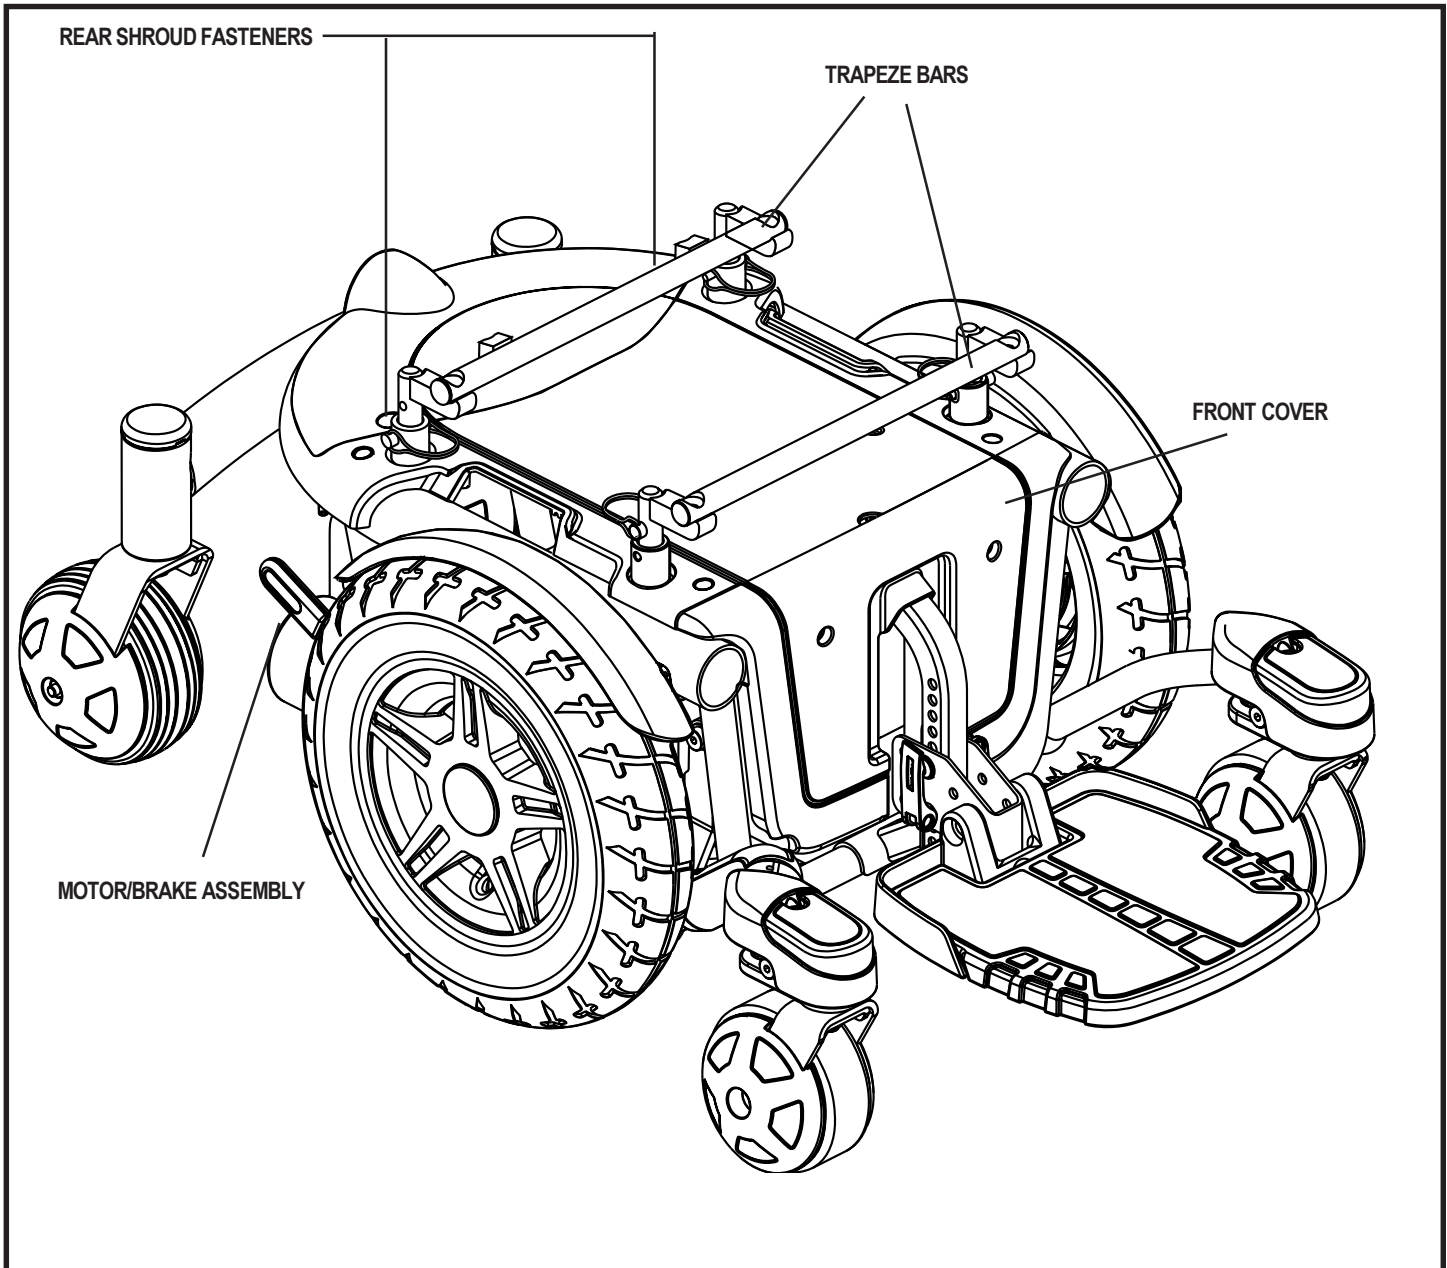

Figure 6. The Quantum 500 Power Base
5. Plug the controller connector(s) into the power base. See figure 6.
2. Turn the rear shroud fasteners counterclockwise one-quarter turn and remove the rear shroud cover. See figure 6.